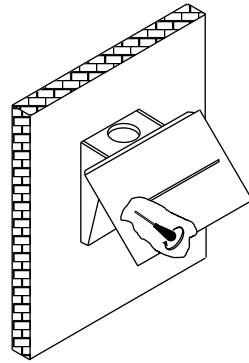

Fig 8
6. Drill both holes and fix the Hamlet to the wall using plugs and screws (Fig 8).